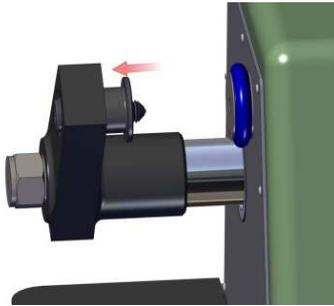
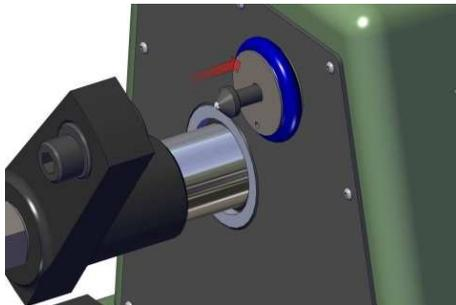
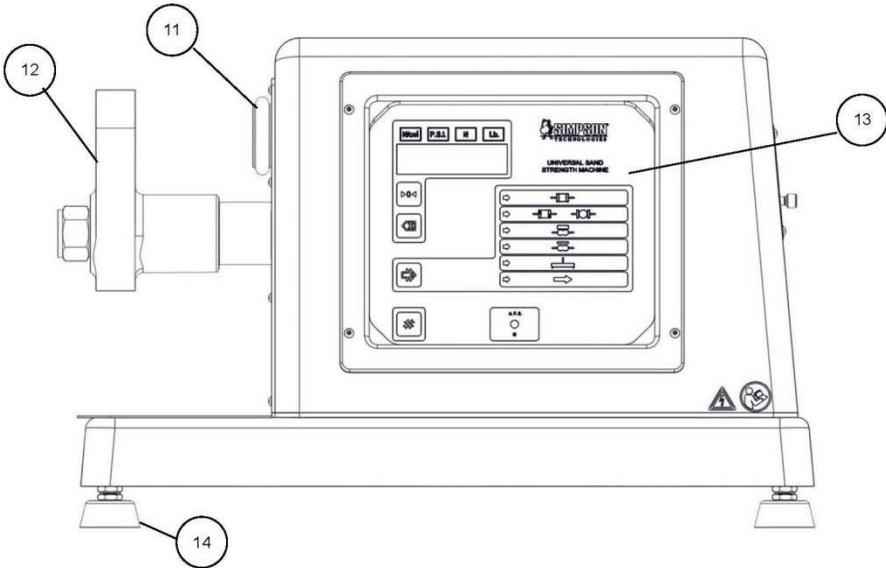

Figure 6.2.1
Figure 6.2.2
Figure 7.3: Front View
3. After approximately five seconds, a "HELLO" message appears in the digital display (Figures 7.3 & 7.4, Item 13B). If any button is pressed four times while the "HELLO" message is displayed, the strength machine will be set in calibration mode.
4. When the "HELLO" message is finished and if the calibration mode was chosen, three messages will appear successively on the digital display: "SET-UP", "CALIb" and "rESET." The desired mode is selected by pressing the "Start" button (Figures 7.3 & 7.4, Item13F) now the message appears on the display.
5. Select the calibration mode by following the directions outlined in steps 2 through 5 and pressing the "Start" button (Figures 7.3 & 7.4, Item 13F) when the "CALIb" message appears on the digital display (Figures 7.3 & 7.4, Item13B).
6. The "HELLO" message will appear again on the digital display and the Strengths & Forces "N/cm²" indicating light (Figures 7.3 & 7.4, Item 13A) will start blinking. At this time press the "Start" button. The "HELLO" message will display again followed by the number "0" indicating that the machine is zero. The "N" (newtons) indicating light (Figures 7.3 & 7.4, Item13A) will begin to blink.
8. Replace the attachments with the adjustable support ball and fixed support ball that are included with the Mechanical Load Cell, Model 42125. The adjustable support is inserted onto the movable clamp arm (Figure 7.3, Item 12) by gently sliding into the mating hole (see Figure 6.2.1). It is extremely important that the calibration and conic supports are clean and free of loose sand. Insert the fixed support ball into the hole located in the center of the stationary clamp holder (Figure 7.3, Item 11). (See Figure 6.2.2 and 6.2.3).
11. Mount the load cell between the stationary clamp holder (Figure 7.3, Item 11) and the movable clamp arm (Figure 7.3, Item 12). (See Figure 6.2.4)
14. After reaching the correct .01 mm deflection on the mechanical load cell, then visually verify that the digital display (Figures 7.3 & 7.4, Item 13B) shows the correct load in newtons. If the value is not correct, the display can be adjusted per step 15; otherwise, proceed to step 16.
- » Rapid increase - Press the "Zero" button (Figures 7.3 & 7.4, Item 13C)
- » Rapid decrease - Press the "Test Selection" button (Figures 7.3 & 7.4, Item 13E)
- » Slow increase - Press the "Clear Display" button (Figures 7.3 & 7.4, Item 13D)
2. All digits in the digital display (Figures 7.3 & 7.4, Item 13B) and test indicator lights will illuminate on and off one time.
4. When the "HELLO" message is finished and if the calibration mode was chosen, three messages will appear successively on the digital display: "SET-UP," "CALIB" and "rESET." The desired mode is selected by pressing the "Start" button (Figures 7.3 & 7.4, Item 13F) now the message appears on the display.
5. The "SET-UP" function sets the content of the strength machine's registers. To select "SET-UP" press the "Start" button (Figures 7.3 & 7.4, Item 13F) while the "SET-UP" message appears on the digital display. After pressing, the display will show the "HELLO" message followed successively by pairs of numbers: the first digit from the left in the digital display represents the register number and the last digit of the display tells the content of the respective register. The content values should match the following table: